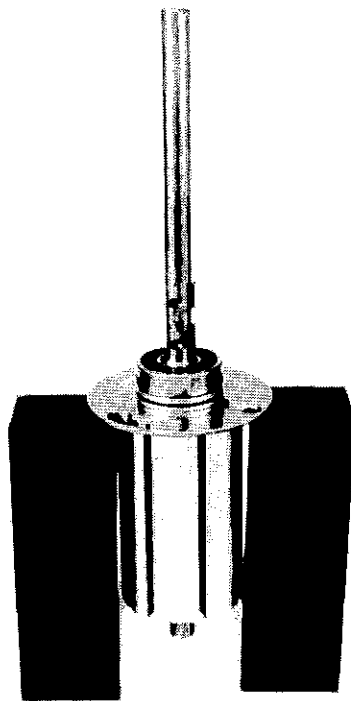

Figure 3.5. Inlet End Plate, Spacer and Bearing Removal
(13) With a bench vise or other fixture supporting the inlet end plate, press or very gently tap the drive shaft end of the rotor assembly (#5) with a rubber mallet. This will help free the inlet end plate (#3), sealing spacer (#14) and bearing (#17) for removal. See Figure 3.5.
(14) Remove and discard the bearing (#17) from the drive shaft.
(15) Remove the sealing spacer (#14) and discard both O-rings (#15 and #16).
(16) Remove the inlet end plate (#3).
(17) Remove and discard the thrust washer (#6) from the drive shaft end of the rotor assembly (#5).